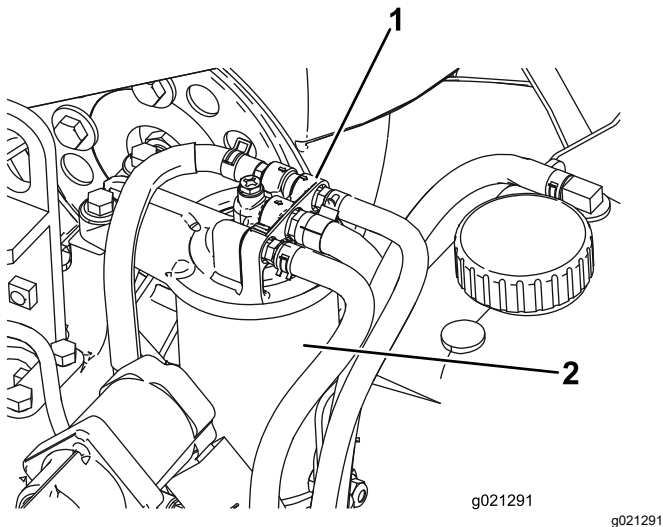

Figure 56
1. Clean the area around the fuel-filter head (Figure 56).
2. Remove the filter and clean the filter head mounting surface (Figure 56).